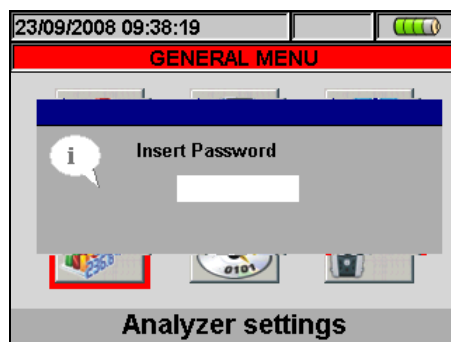

Fig. 13: Insert Password screen
5. If a wrong password is fitted or if more of 10s elapse, the meter will give the warning message "Wrong Password" and it's necessary to repeat the operation. As soon as the correct password is fitted, the meter will stop immediately the recording running and the correspondent icon at display (see Fig. 13) will disappear.